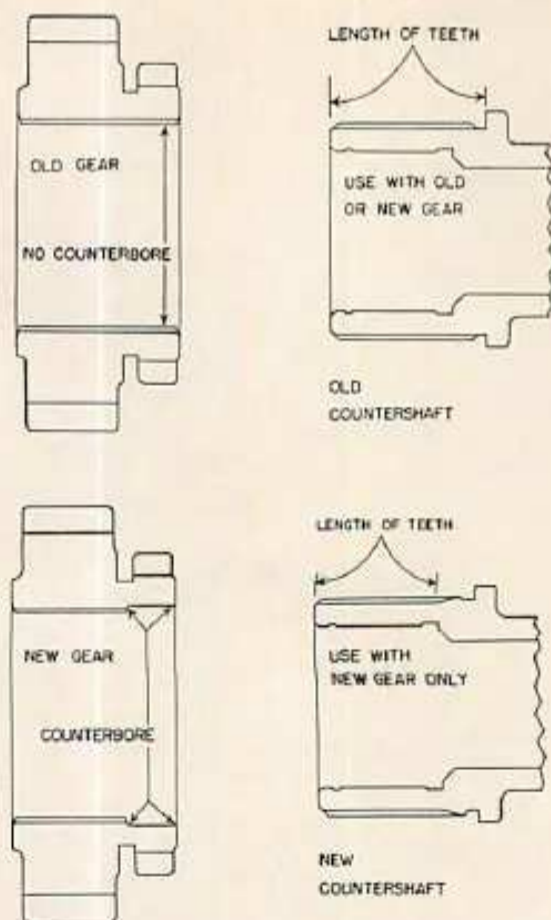

Fig. O113 — When servicing Hydra-Power drive on series 1600, be sure to use correct countershafts and double gears as shown.
Fig. O107 — Exploded view of the latest Hydra-Power drive unit. Earlier units did not use bearing spacer (84), clutch gear bearings (128) were retained by snap rings (not shown) and pump was driven by double gear (131) (see Fig. O113) instead of gear integral with countershaft (134). Refer to text for difference in service procedure on early and late output shaft assemblies.